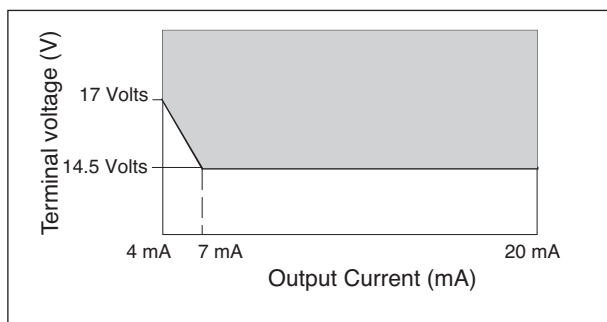

Figure 2-2. Minimum terminal voltage at the DO202
B. Power supply : Nominal 24 VDC. Maximum voltage 40 VDC for DO202G and 31.5 VDC for DO202S. The minimum voltage is 17VDC at 4 mA and 14.5 VDC at 7mA. See figure 2-2